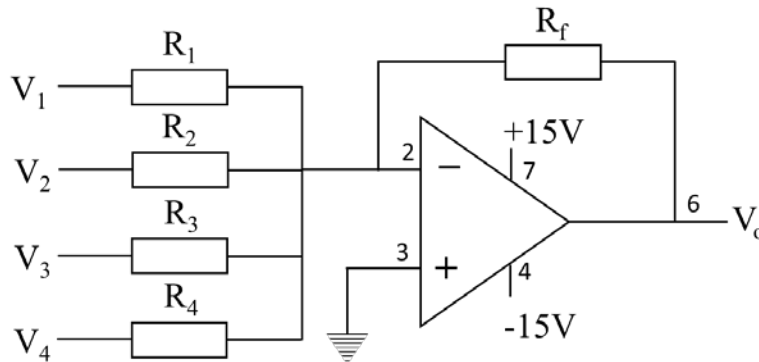

Figure 3-1 Op-amp Summing Amplifier
The simple summing amplifier (shown in Figure 3-1) is capable of summing as many signals as desired with a proportionality determined by the ratio of feedback resistance to input resistance. The inputs can be any combination of AC and DC signals; however, as with op-amp circuits previously investigated, such limitations as frequency response, slew rate, offset voltage and output voltage range must be considered when predicting the output signal. Clearly, the summing amplifier can be applied in most situations where it is required that the output signal be a weighted sum of multiple inputs.
1. For the summing amplifier circuit in Figure 3-1, what is expression for V_o in terms of R_f , R_1 , R_2 , R_3 , R_4 , V_1 , V_2 , V_3 , and V_4 .
2. Design a 4 bit D/A converter using an op-amp summing amplifier (see Figure 3-1). Input voltages of 0 V and 5 V will be used to provide logical low and high inputs, respectively. V_1 will be the most significant bit, V_2 the next most significant bit, etc. Select the values of R_f and R_1 , R_2 , R_3 , and R_4 to provide an output that will vary from 0 V to -5 V as the digital input varies from 0000 to 1111. Show the schematic diagram for this circuit.